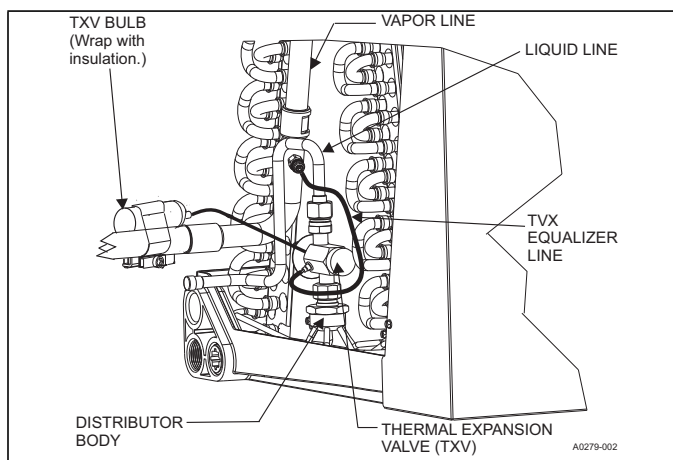

FIGURE 7: TXV Bulb and Equalizer line Installations
- Install the TXV equalizer line onto the vapor line by hand tightening the 1/4" SAE coupling nut to the equalizer fitting, and apply an additional 1/3 turn to seal. See Figure 7.
8. Install the TXV bulb to the vapor line near the cabinet, using the bulb clamp(s) furnished with the TXV assembly. Ensure the bulb is making maximum contact. See Figures 7, 8 & 9, and accomplish the following: